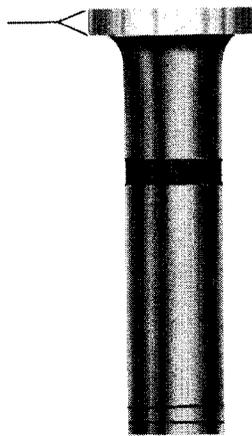

Figure 6-22. Surface to be Cleaned of Ferrox Coating
- a. Clean the edge of the face with medium grade sandpaper and any Ferrox coating (figure 6-22).